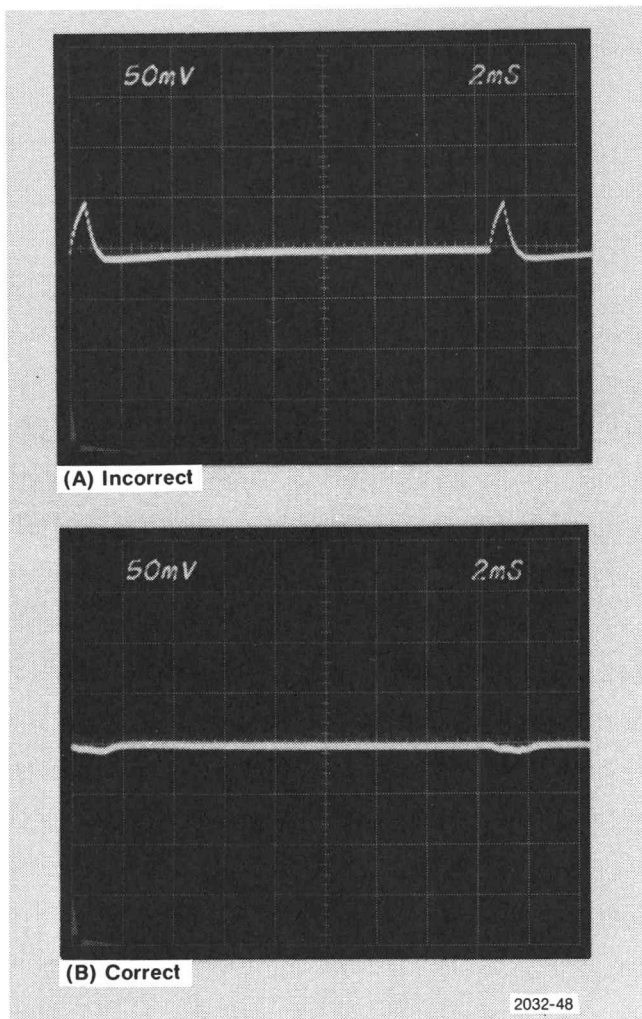

Fig. 5-37. 1420 — DC Balance adjustment.
b. ADJUST—R1561 (DC Bal) until the test oscilloscope display is a straight line (see Fig. 5-37).